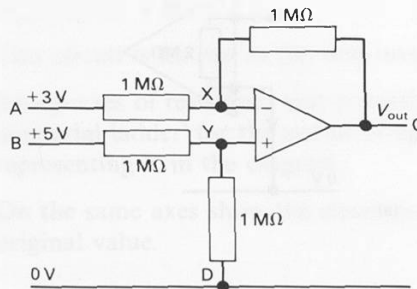
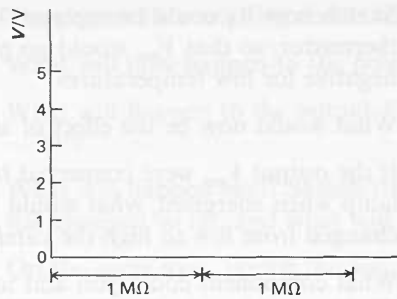

Figure I76
Figure I77
35(L) Figure I76 shows how an operational amplifier can be used in a differential amplifier circuit. To see how it comes about that the output voltage V_{out} is proportional to the difference between the two input voltages ($V_B - V_A$), consider the following two paths in the circuit: AXC and BYD.
- d Copy the diagram of figure I77 and on it sketch the 'potential ladder' (as in questions 17 and 28) to represent the potentials at A, B, C, D, X, and Y in the circuit of figure I76.